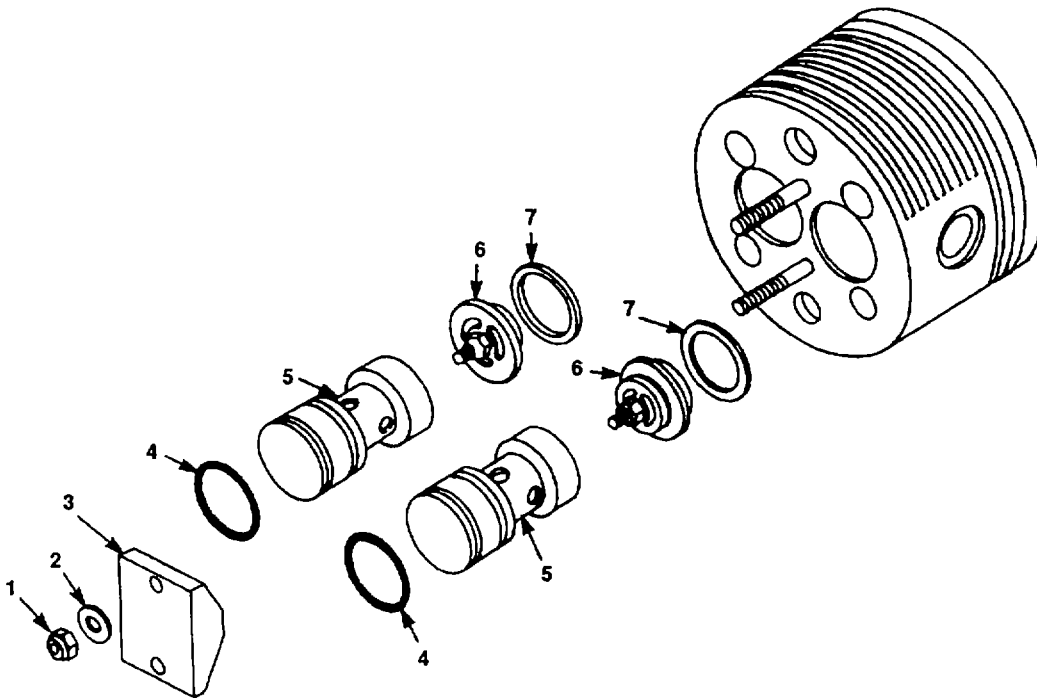

Figure 4-5. Valve Head, 2nd and 3rd Stage
- b. Changing the valves of 2nd and 3rd stage. Refer to figure 4-5.
1. Loosen and remove the hex head nuts (1) and washers (2); remove cap holder (3).
2. Insert two screwdrivers into the groove of the valve cap (5) and lift off valve cap with O-ring (4).
3. Check O-ring (4) and replace, if required.
4. Withdraw valve (6); remove gasket (7) and discard.
5. Check valve (6) and replace, if required.